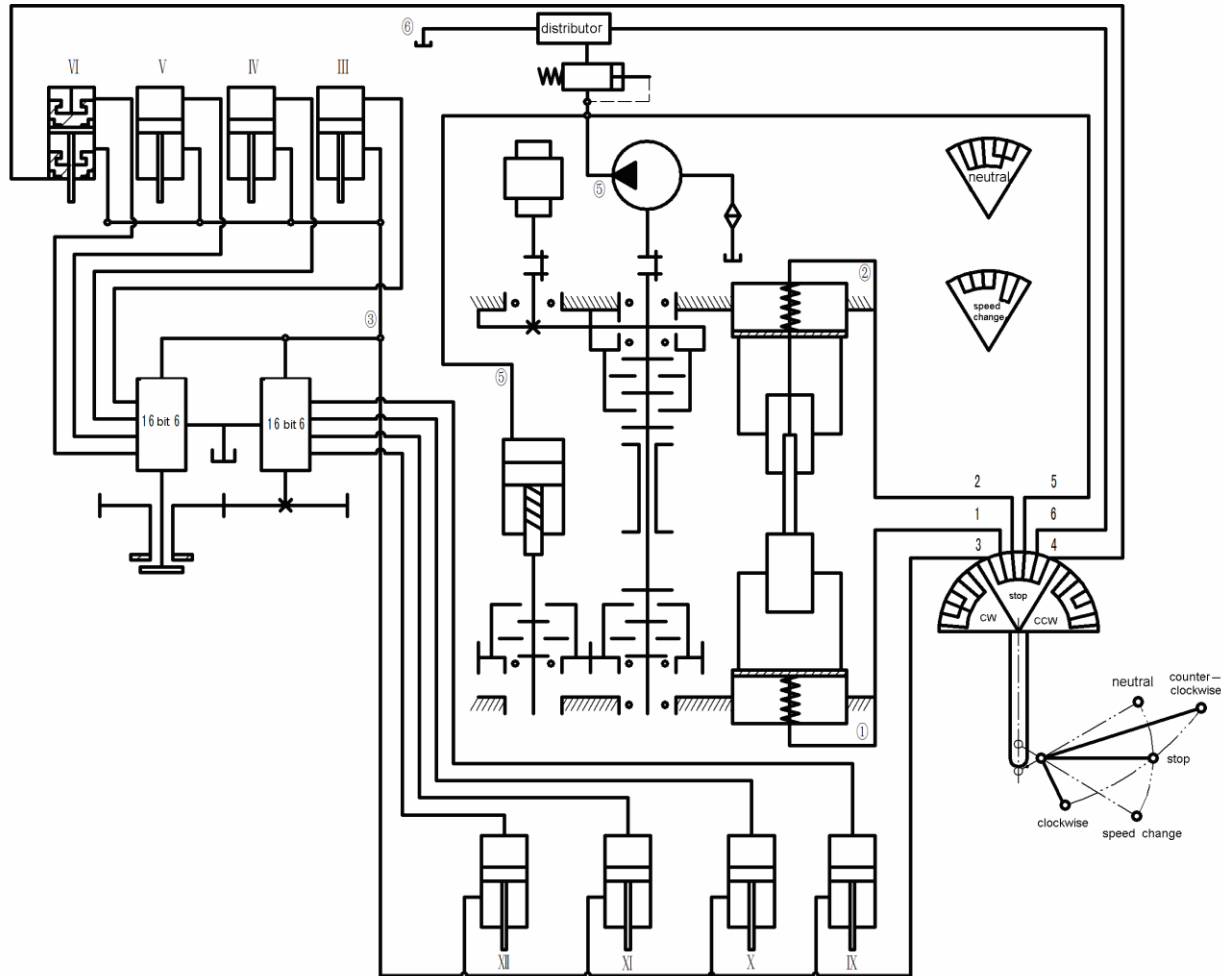

Figure 8.2
8.1 CONTROL ORGAN OF THE HYDRAULIC SYSTEM (Figure 8.2)